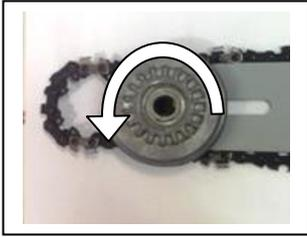

Fig.5
6. Rotate the tensioning sprocket on the bar fully anti-clockwise (Fig.5).